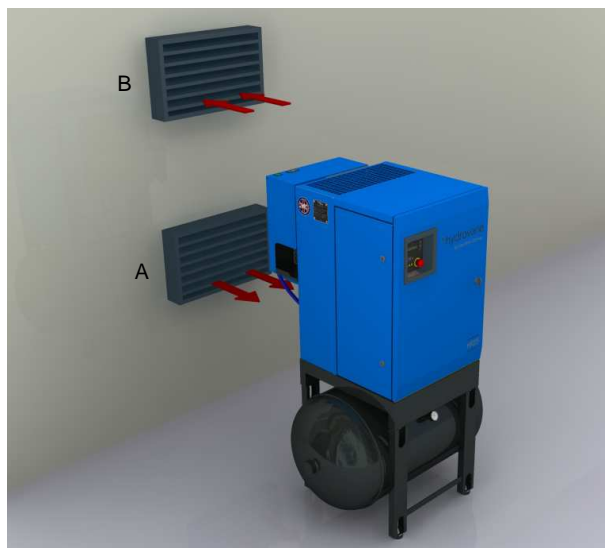

Fig 3.1 Compressor Ventilation
3.3 Compressor Ventilation (Fig.3.1)